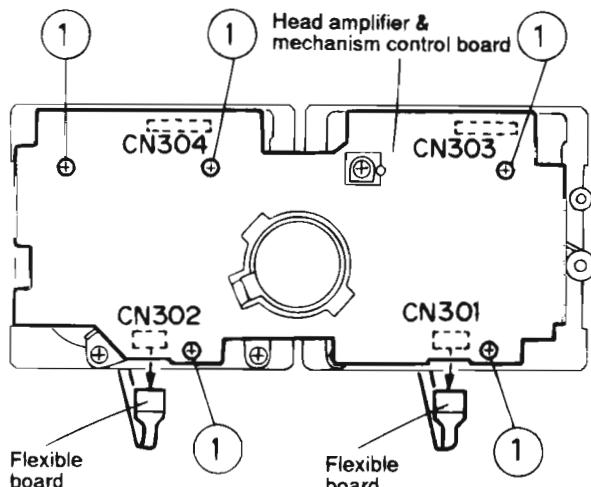

Fig 4
■ Removing the head Amp.and Mechanism Control P.C.Board (See Fig 4)
2. After turning over the cassette mechanism assembly, remove the five screws ① retaining the head amp. and mechanism control P.C. board